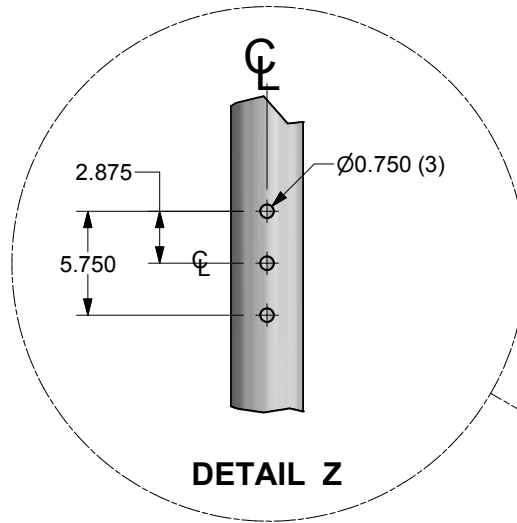

FIG. 1
1. LOCATE DESIRED MOUNTING POSITION AS SHOWN IN FIG. 1.